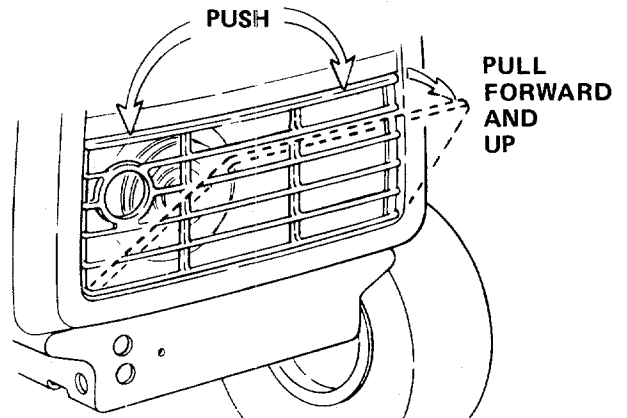

Figure 23
11. Make certain that the backside of the grille insert is clean and unobstructed. Push down on the top of the grille insert and pull forward as shown in Figure 23. Lift the grille insert up removing the tabs from the bottom of the grille housing. Remove by hand any accumulated grass and debris.